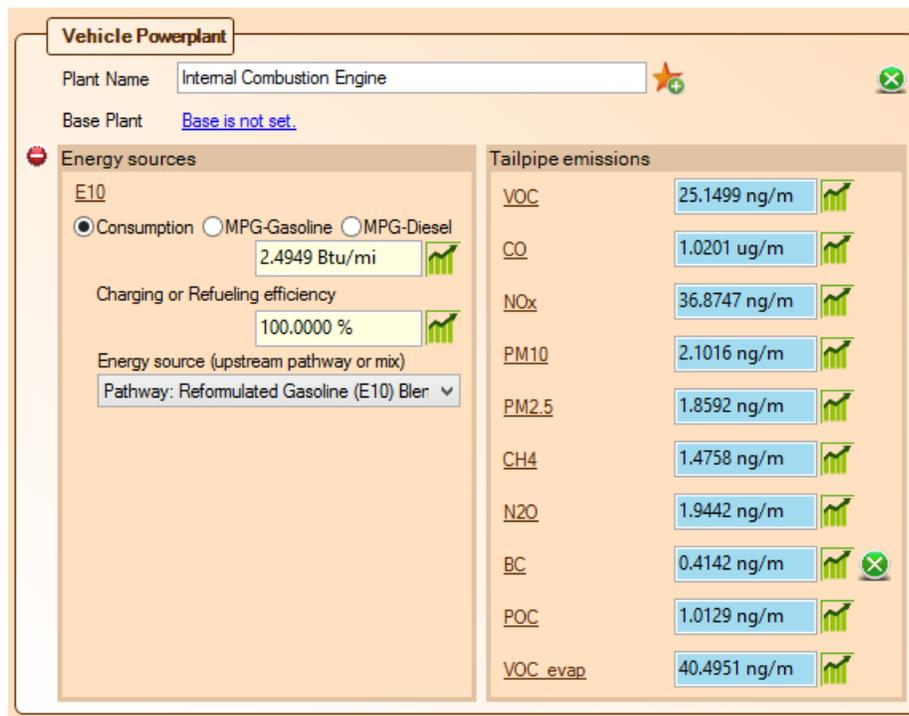

Figure 78: Example of an internal combustion engine powerplant within a mode
**Powerplants - Energy use** Powerplants must define energy consumption and emissions. As seen in Figure 78 a powerplant has a name. It may or may not have a base plant, the base plant will be used to calculate ratios for energy consumptions and emissions between the base and the current plant.
Energy consumption or MPG gasoline equivalent or MPG diesel equivalent must be given for each energy used. In the case of E10 in Figure 78, the charging efficiency is an abstract value that represents how much fuel is transferred between the pump and the tank of the vehicle. In the case of electricity we account for the charger losses between the wall and the vehicle battery. Each of the energy sources must be coming from a pathway or a mix, this is used to calculate the upstream results associated with the vehicle energy consumption.
**Powerplants - Tailpipe emissions** The exhaust emissions define the average emissions per mile. See Figure 78.